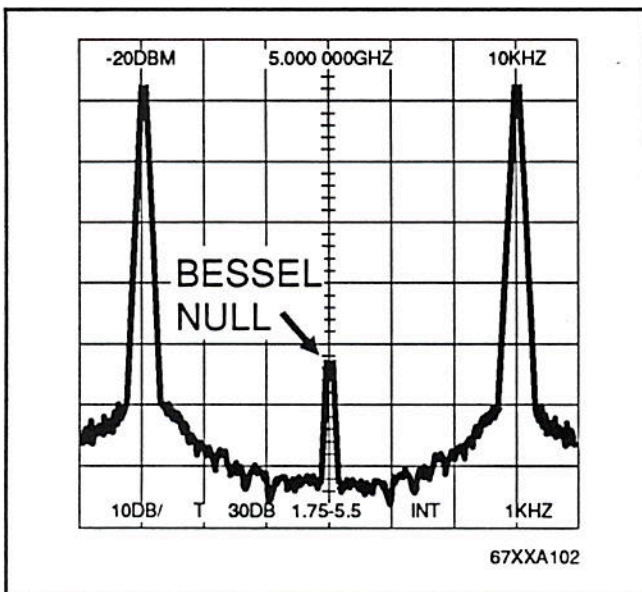

Figure 2-10. Spectrum Analyzer Display of Bessel Null on FM Modulation Waveform
5. Observe the first Bessel null (Figure 2-10) at the carrier frequency (modulation index = 2.4). Measure the drop in carrier level and record it on the Test Record. The carrier level must have decreased by ≥ 26 dB to meet specification.